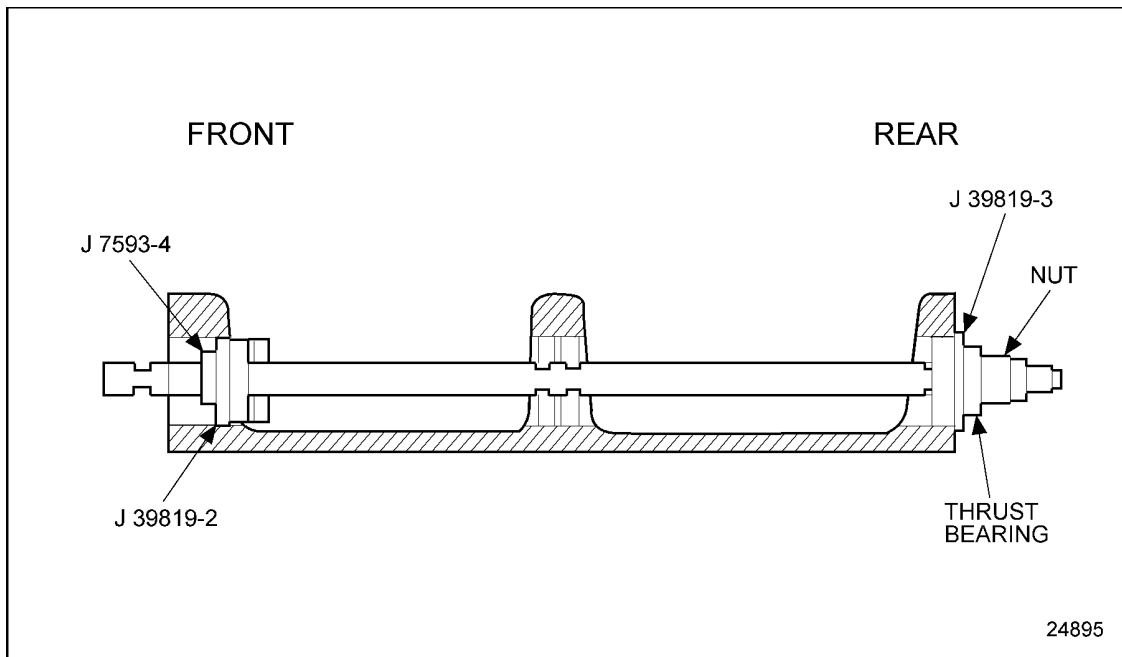

Figure 1-377 Install Rear Bushings
1. Place bushing installer J 39819-1 and C-washer J 7593-4 onto the end of shaft J 39819-5 and insert the shaft completely through the cradle from the front. See Figure 1-377.